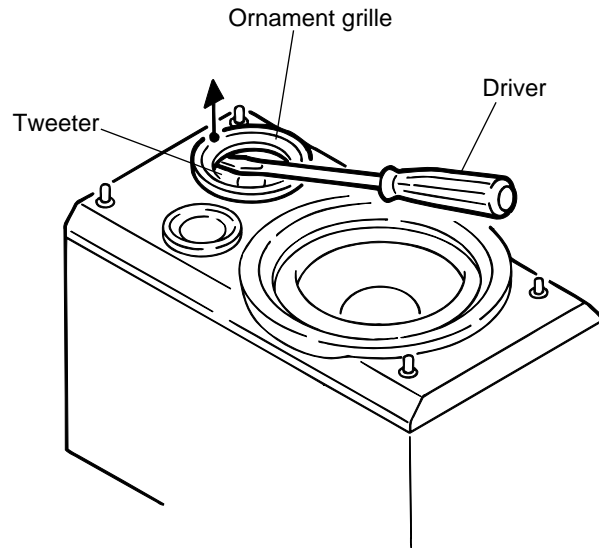

Fig.4
■ Removing the speaker (tweeter) (See Fig.4 and 5)